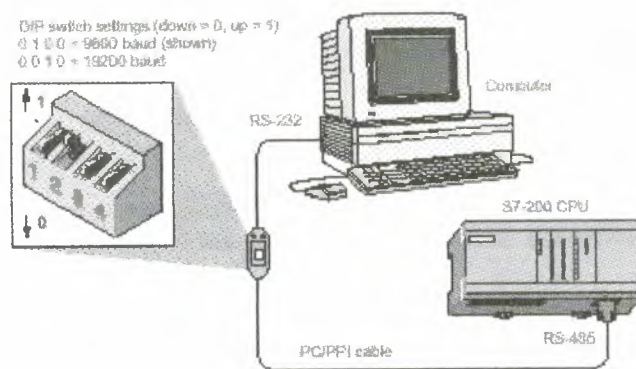

Figure 6.5 Communicating with a CPU in PPI Mode
- A single master device is connected to one or more slave devices. See Figure 6.5.
Figure 6.5 shows a typical configuration for connecting your personal computer to your